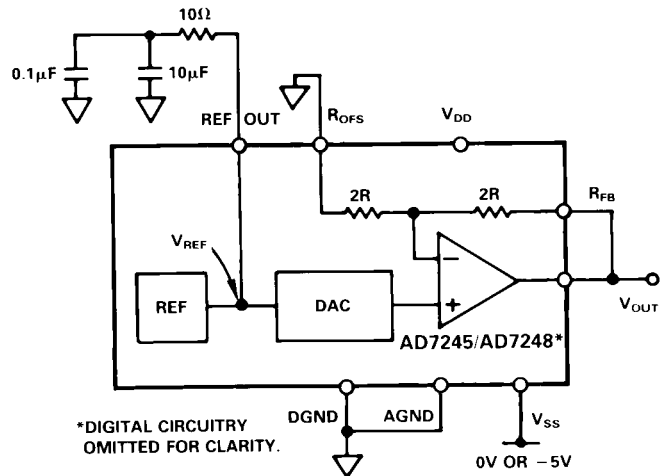

Figure 8. Unipolar (0 to +10V) Configuration
*REFERENCE DECOUPLING COMPONENTS AS PER FIGURE 8
The first of the configurations provides an output voltage range of 0V to +10V. This is achieved by connecting the bipolar offset resistor, R_{OFFS} , to AGND and connecting R_{FB} to V_{OUT} . In this configuration the AD7245/AD7248 can be operated single supply ($V_{\text{SS}} = 0V = \text{AGND}$). If dual supply performance is required, a V_{SS} of -5V should be applied. Note that a V_{SS} supply more negative than -5V should not be applied to the AD7245/AD7248 when it is configured for a 0 to +10V output range. Figure 8 shows the connection diagram for unipolar operation while the table for output voltage versus the digital code in the DAC latch is shown in Table III.